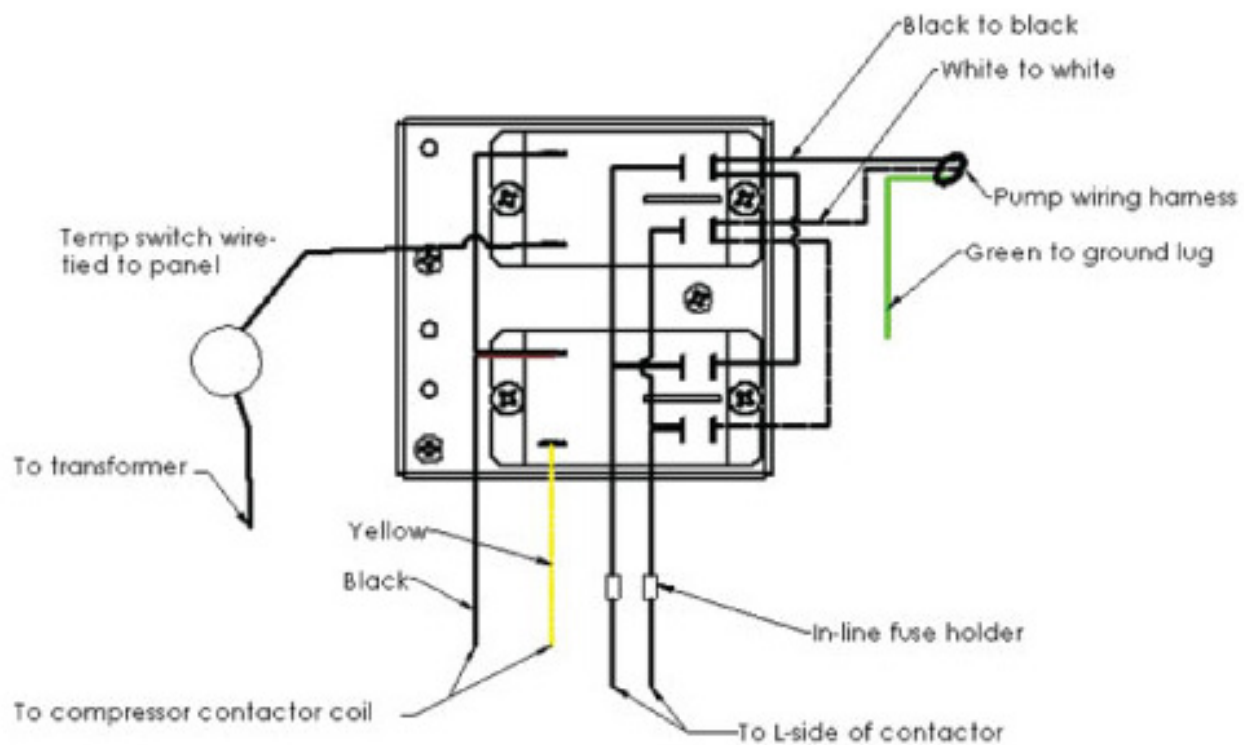

Fig. 10 — Relays on Mounting Panel and Wiring
- c. Connect the wiring harness to the available 1/4" male piggy-back spade connections on the relay. White wire from harness attaches to the white wire piggy-back spade; black wire from harness attaches to the black wire piggy-back spade. Connect the green wire from the wiring harness to an appropriate ground lug on the unit. (See Fig. 10)